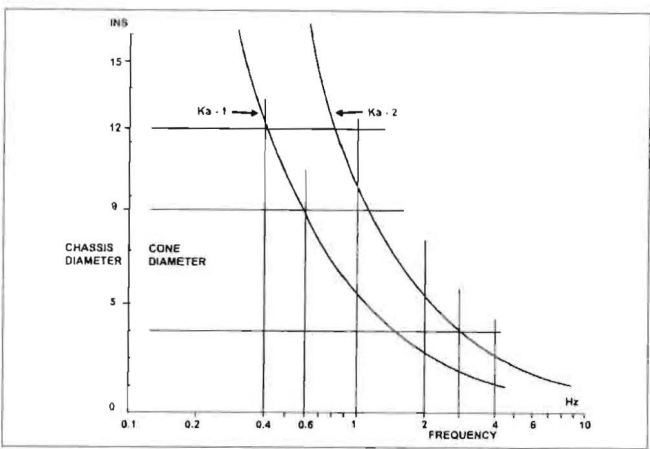

Fig. 2: Curves of Drive Unit Diameter vs Frequency
**Fig.2** shows the relationship between driver diameter, frequency and directivity. In order for a loudspeaker to have broad and even dispersion, the drive unit utilized for each frequency band should only operate up to the frequency limits shown by the curved line  $ka=2$ .